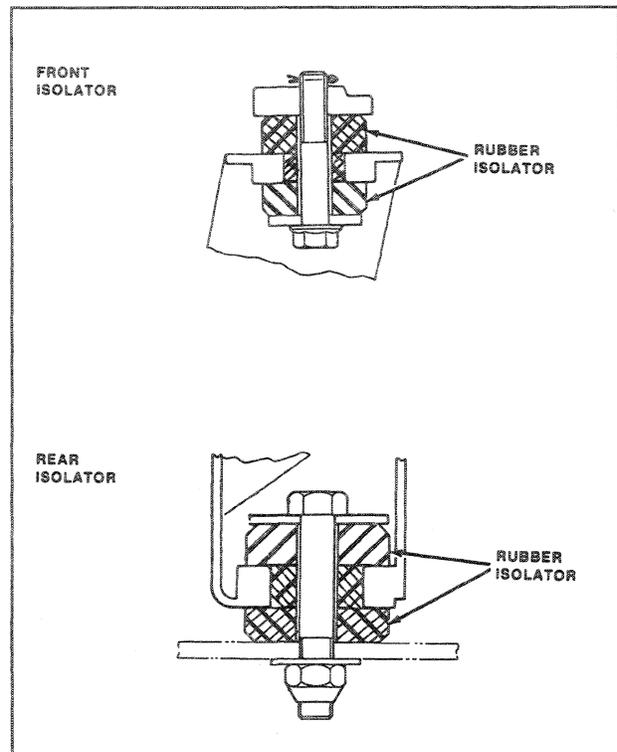

FIGURE 2-15: Engine Isolators
20. Remove rear engine mount capscrews and upper isolator hardware. Remove front engine mount capscrew, cotter key and lower isolator hardware (Figure 2-15).
22. Remove isolator pads from tractor frame (Figure 2-15).
1. Set lower isolator pads over rear frame mounting holes and upper isolator pad over front frame mounting hole (Figure 2-15). The lower isolator pad has the projection on it.